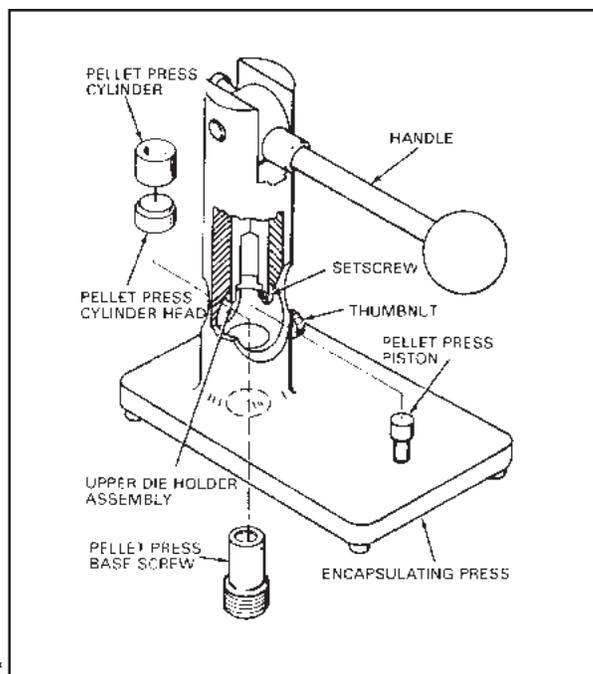

Figure 4.12
6. Set the press upright. Install the pellet press cylinder into position on the cylinder head with the recessed portion of the cylinder fitting snugly onto the cylinder head (see Figure 4.12).